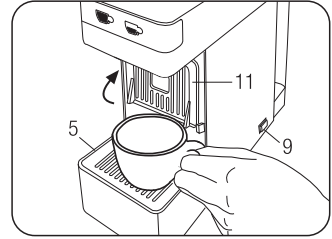
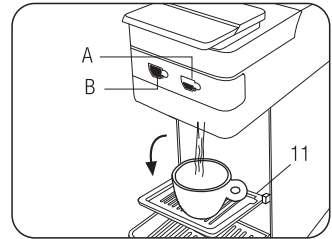

Fig. 5
Fig. 6
- Ensure that there are no capsules inside; power on the machine via the main switch (on the back) (9)
- Place a large empty cup under the coffee spout. **(Fig. 5)**
When the buttons (A) and (B) appear with a fixed light the machine is ready for use. Press a button (A) or (B); the machine dispenses water, press the button again when you have obtained the desired amount of water **(Fig. 6)**. The machine has been rinsed once at least three cups of water have been made.
To make an espresso using button (A) (small cup), place the rack (11) as in Fig.6. When tall cups are needed, place the rack (11) as in Fig.5, and place the cup directly on the rack (5) (Fig.5)